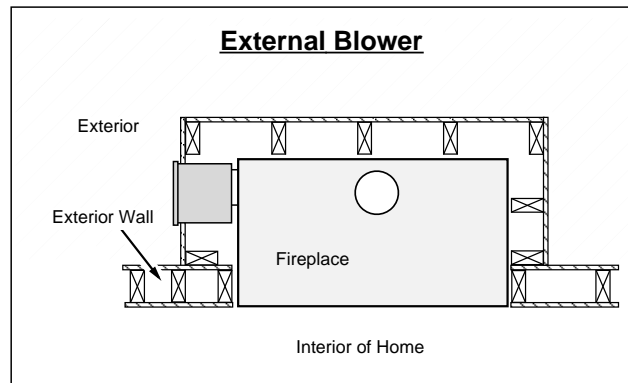

Figure 13
- The blower must be located to draw air from the exterior of the home, producing positive pressure inside the home and providing outside air for the combustion chamber (see Figure 13).